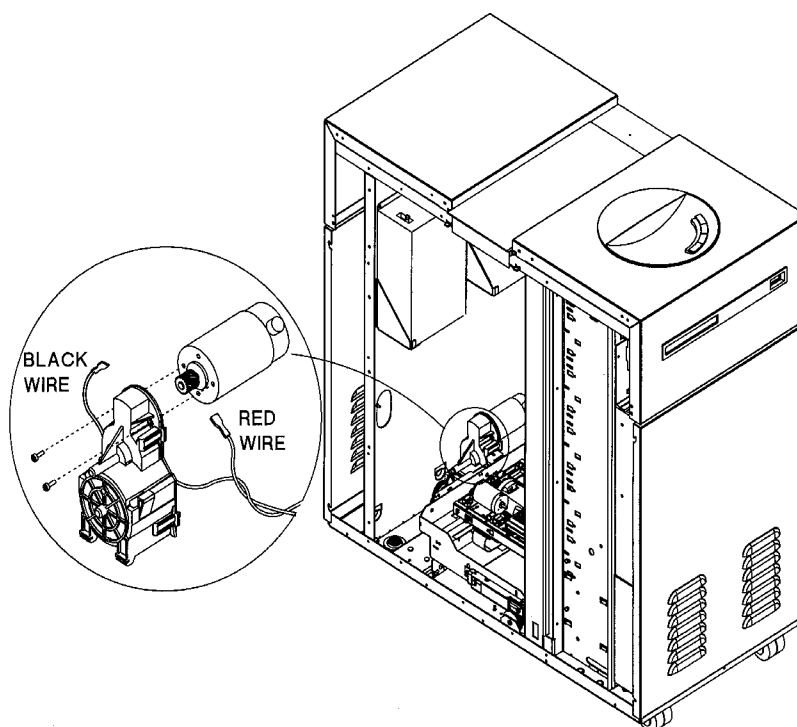

Figure 38: Cables and Mounting Screws on the Vertical Motion Motor
2. Disconnect the two power cables to the vertical motor (see Figure 38).
3. Remove two T-15 motor mounting screws on the gear box. Remove the motor (see Figure 38).